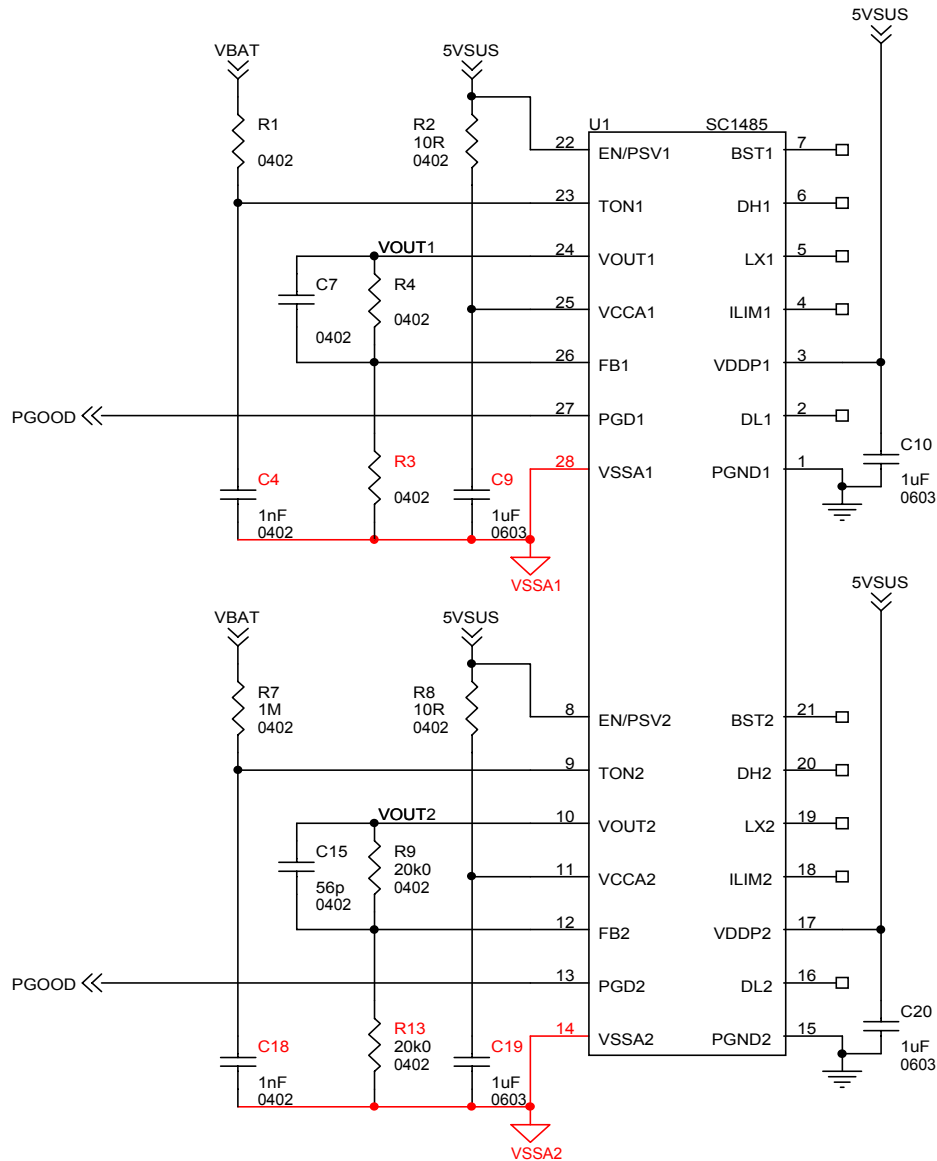

**Figure 8: Reference Design and Layout Example**
Please refer to Figure 8 on Page 16 for test schematic (OUT2)
**Please refer to Figure 8 on Page 16 for test schematic (OUT2)**